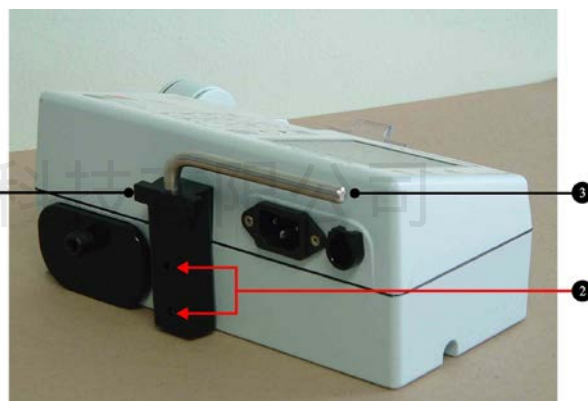

Figure 10.2: Handle Holder
- (A) If the handle holder is already installed, skip to step B. If the Handle Holder (pole attachment) is not installed, use a hex key to tighten the screws inside the attachment (Figure 10.2 Item 2) into the holes on the back of the pump.
- (B) Hold the pump angled away from you and place the hook on the handle holder over the top of the clamp shoe.
- (C) Push down gently but firmly. You should hear a click as the attachment secures itself to the clamp.